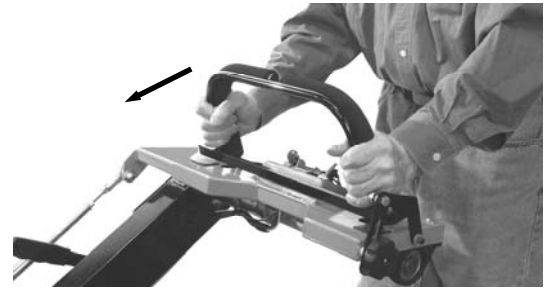

Figure 6
1. After setting the Speed Control Bar to the desired speed, slowly push the Control Handles forward until they reach the Speed Control Bar (**Figure 6**).